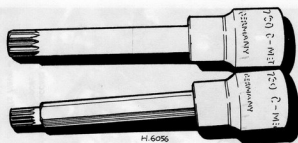

Fig. 1.7. Special tools required to remove cylinder head and camshaft sprocket bolts. (Sec. 10)
10 Before dismantling begins it is important that special tools are obtained otherwise certain work cannot be carried out. The special tools are shown in Fig. 1.7.
- 1 It should be noted that the cylinder head bolts and the camshaft sprocket bolts have spined heads that require the use of special tools to remove them (see Fig. 1.7).